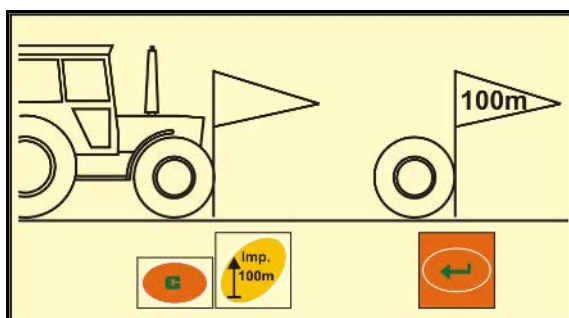

Fig. 73
2. Move tractor vehicle to starting position (Fig. 73) and seed drill to operational position (if necessary, interrupt seed dosing).